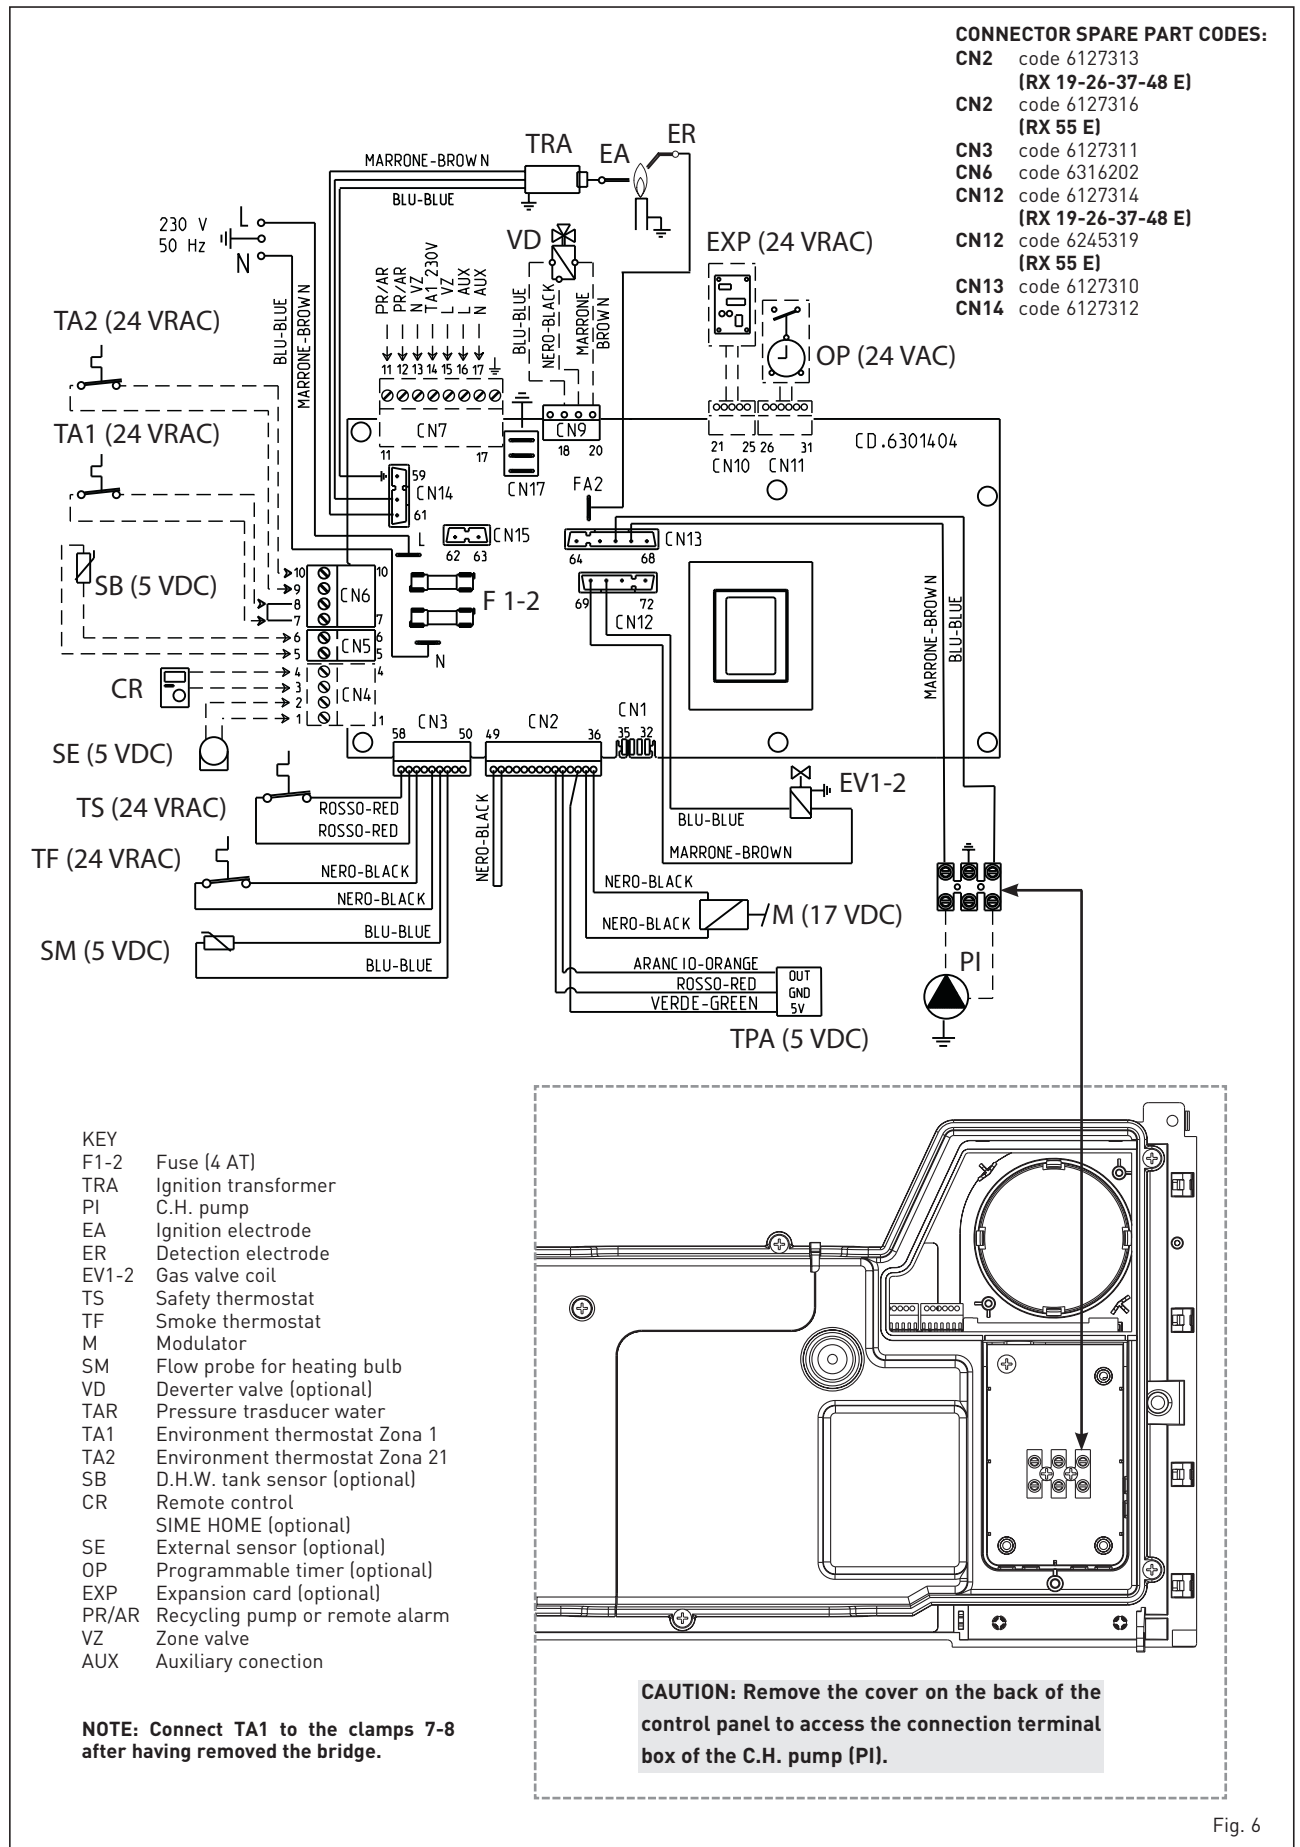

Fig. 6
Some examples are given below of boiler systems combined with different electronic systems. Where necessary, the parameters to be set in the boiler are given. The electrical connections to the boiler refer to the wording on the diagrams (fig. 6). The zone valve control starts at every
2.12 BOILER ELECTRICAL (fig. 6)